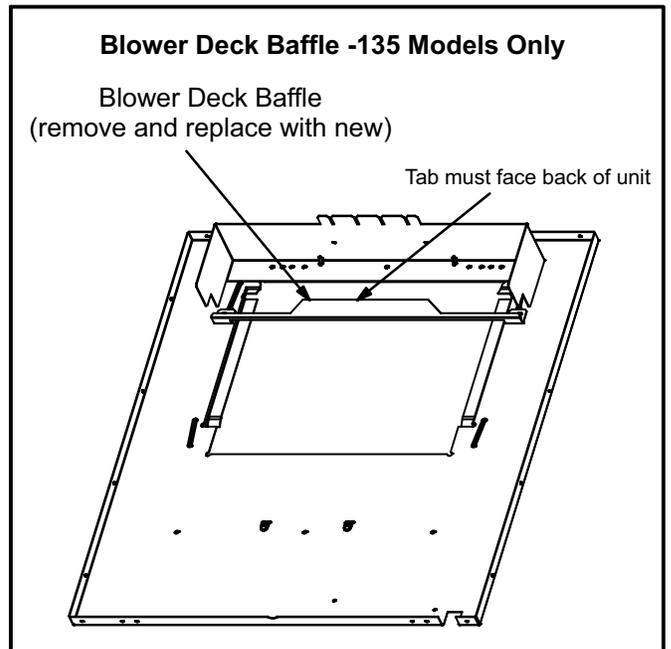

FIGURE 5
- 135 only** - Remove blower deck baffle and replace with provided blower deck baffle. Screw holes will correspond between replacement baffle and blower deck. Use existing screws to secure in place. Ensure baffled is oriented with tab facing the back of the unit. See figure 5.